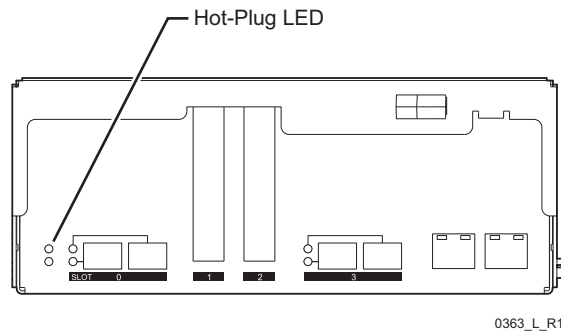

Figure 9-1. Hot-Plug LED on a Controller Node
- 1 Confirm the hot-plug LED appears solid amber on the controller node requiring removal (Figure 9-1).